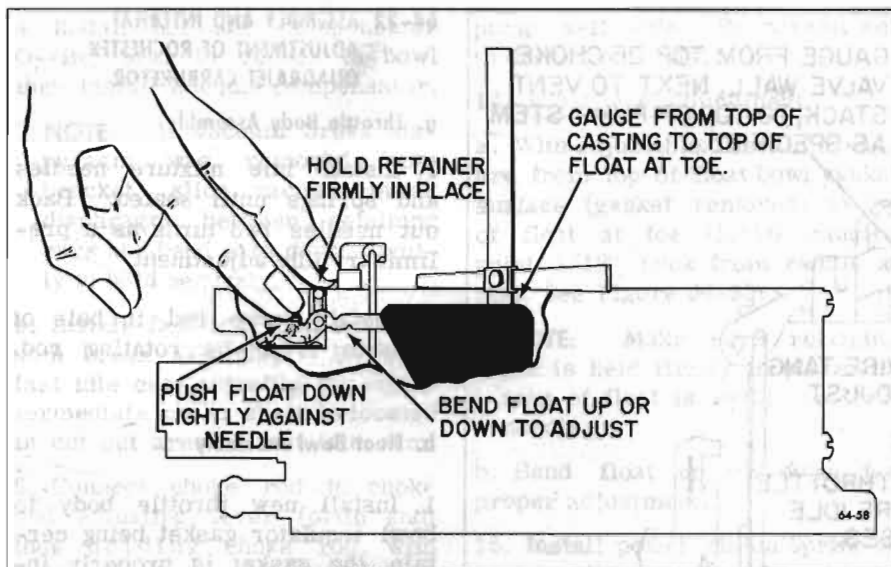

Figure 64-33—Float Level Adjustment
a. With adjustable T-scale, measure from top of float bowl gasket surface (gasket removed) to top of float at toe (locate gauging point 1/16" back from radius at toe). See Figure 64-33.